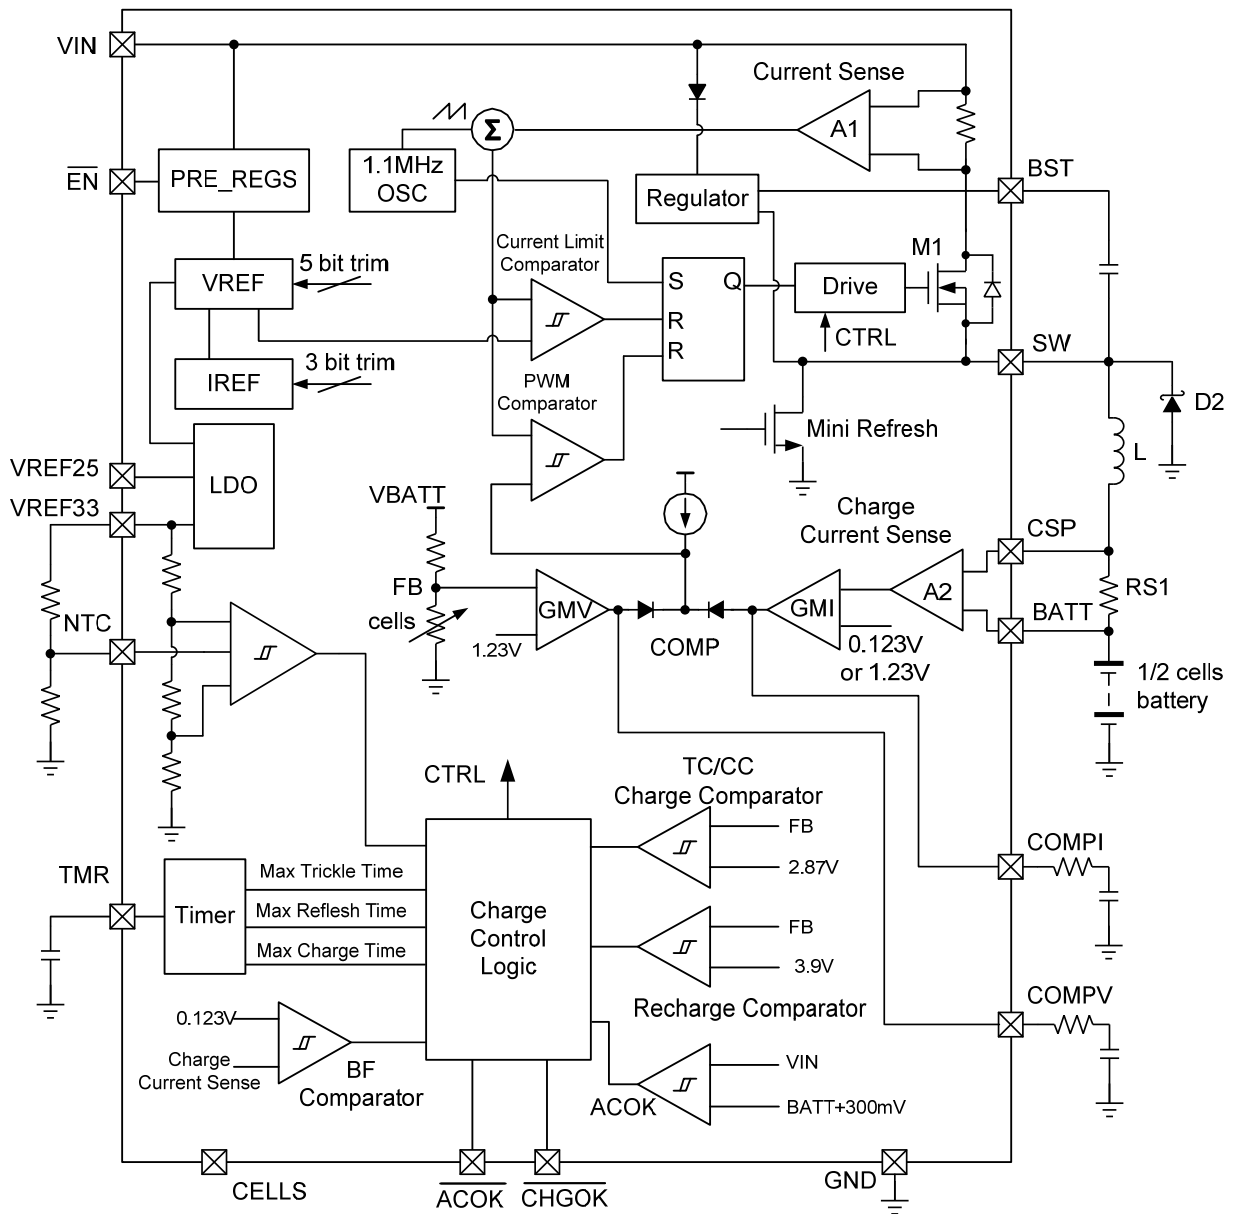

Figure 1—Functional Block Diagram
Figure 1 shows the block diagram. At the beginning of a cycle, M1 is off. The COMP voltage is higher than the output of the current sense amplifier (A1) and the PWM comparator's output is low. The rising edge of the 1.1MHz CLK signal sets the RS flip-flop. Its output turns on M1 to connect the SW pin and inductor to the input supply.
The MP26101 senses battery current through the amplified voltage drop across RS1 (Figure 1). The charging starts in trickle-charge mode (10% of the RS1-programmed current  $I_{CC}$ ) until the battery voltage reaches 2.87V/cell. If the charge stays in trickle-charging mode until the trickle-charge time limit, the device shuts down. Otherwise, the MP26101 operates in constant-current (CC) mode and regulates the output current to a level set by RS1. The COMPI voltage (regulated by the